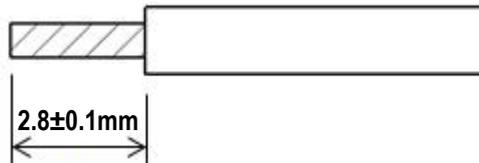

Fig 1. Wire strip
- ① Strip the insulation off at the dimension shown in Fig .1.